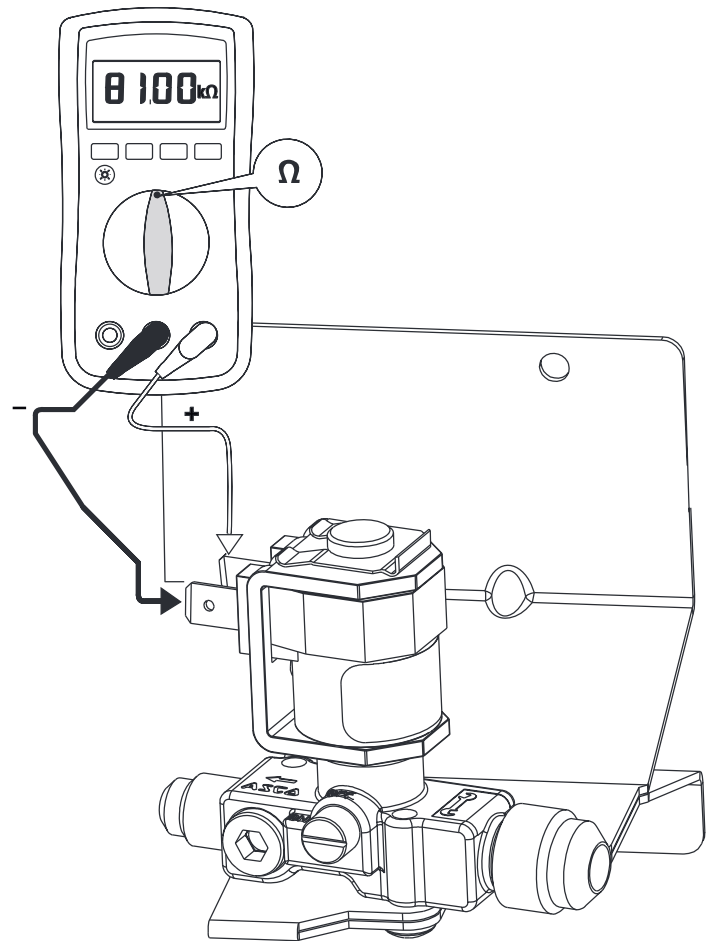

Figure 5-4. —Checking solenoid coil resistance.
4. Connect multimeter probes to the solenoid coil terminals as illustrated in Figure 5-4.